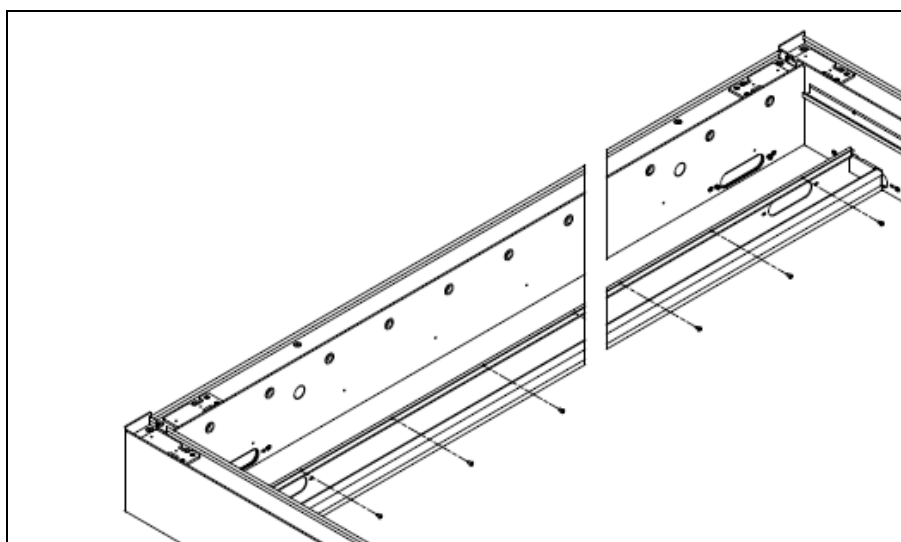

Figure 41
3. Fasten the gutter with painted screws St4,8x13 (fig. 41).